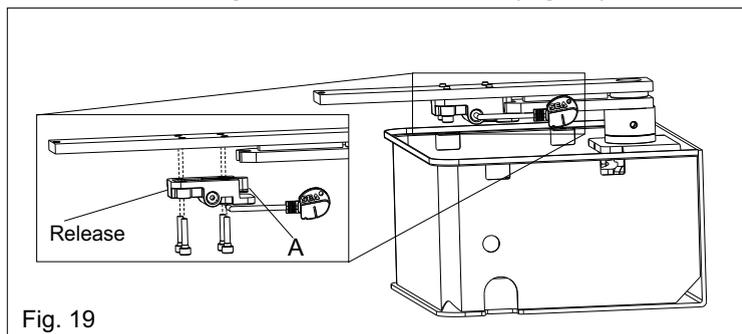

Fig. 19
6.1. Grease the hinge (A) and mount the release system under the leaf device using the 4 furnished screws (Fig. 19)